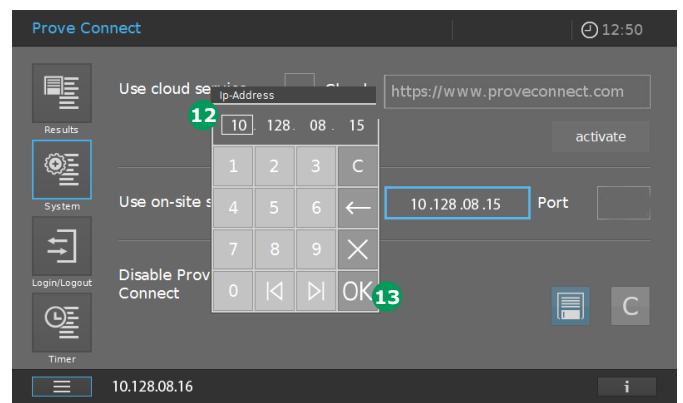

Figure 40 - Screen of Spectroquant® Prove / Prove plus (Figure 37) with entered IP address of the PC on which Prove Connect runs
- Click in the field: IP address (text box with blue border). The entry field appears 12 (Figure 40).
- Confirm the entered IP address with "OK" 13 (Figure 40).